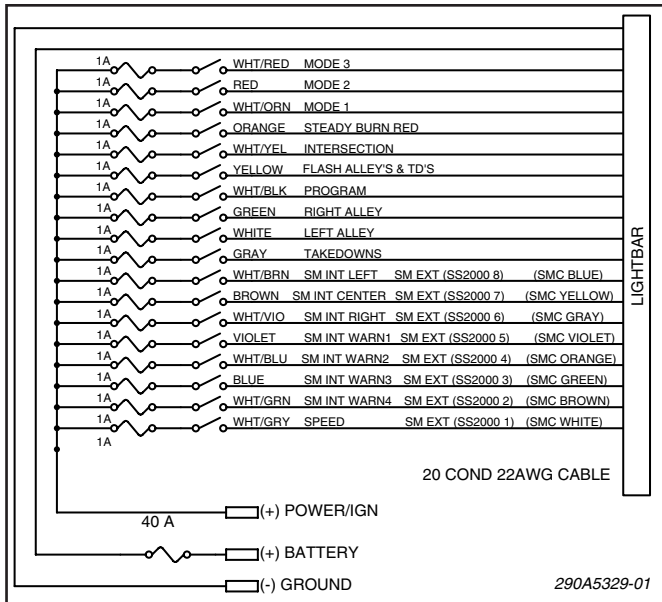

Figure 1.
2. For proper light operation, the control cable must be properly terminated inside the user-supplied control head. Using figure 1 and table 1 as a guide,
Refer to table 1 and figure 1 for proper connections.
priority. Mode 3 (WHT/RED) will override Mode 2 (RED) and Mode 2 will override Mode 1 WHT/ORN). One of the available flash patterns can be programmed to each mode input. Default configuration is Mode 3 Random Flash, Mode 2 Quad Flash and Mode 1 595 Flash. Programming will be covered later in this section. To activate a mode, apply 12VDC to a mode input wire. 12VDC must also be applied to the front cutoff wire (BLK/PNK) for the front of the bar to operate. See figure 1 for proper fusing.
Refer to table 1 and figures 1 and 3 for proper connections.